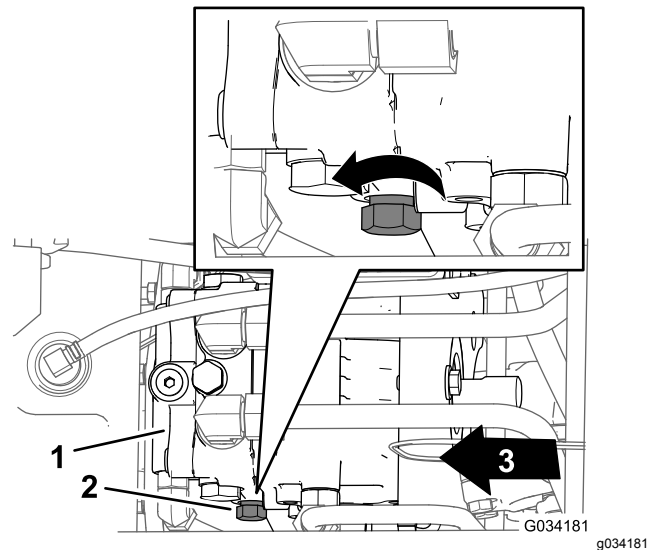

Figure 32
3. Rotate the control knob 3 turns counterclockwise (Figure 32).
2. Locate the control knob for the bypass valve at the left side of the hydraulic pump (Figure 32).
3. Rotate the control knob (Figure 32) clockwise until you feel resistance, which indicates that the bypass valve is closed.